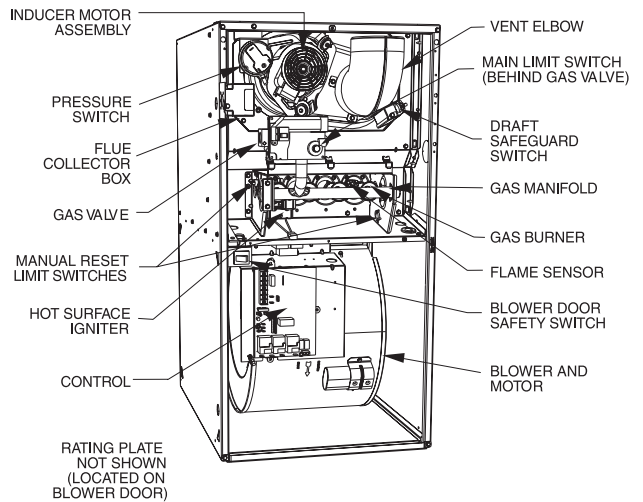

Fig. 20 - Component Location
NOTE: See Fig. 20 for component location in upflow orientation. Re-orient component arrangement when furnace is installed in other positions.
8. Swing out manifold from burners then pull manifold out of right side of burner box. (See Fig. 20.)